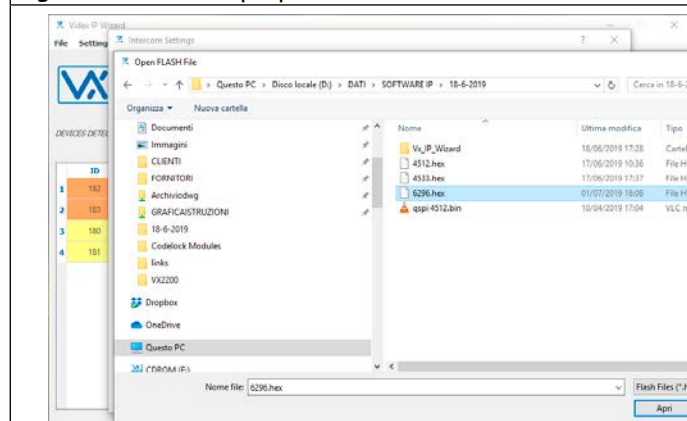

Fig. 41 Select the proper firmware file
- Select the correct firmware file (**Fig. 41**).